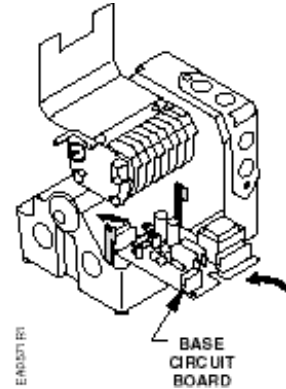

Figure 23.
4. Guide the base circuit board from the switch housing side of the actuator into the bottom of the circuit board mounting bracket. See Figure 23.